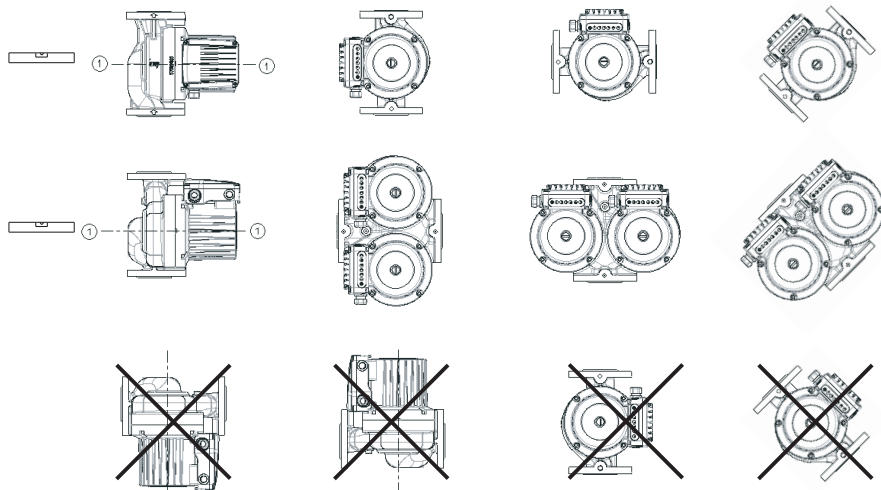

Fig.1
- The pump should be incorporated into piping system with the pump axis 1-1 in horizontal position (Fig. 1).